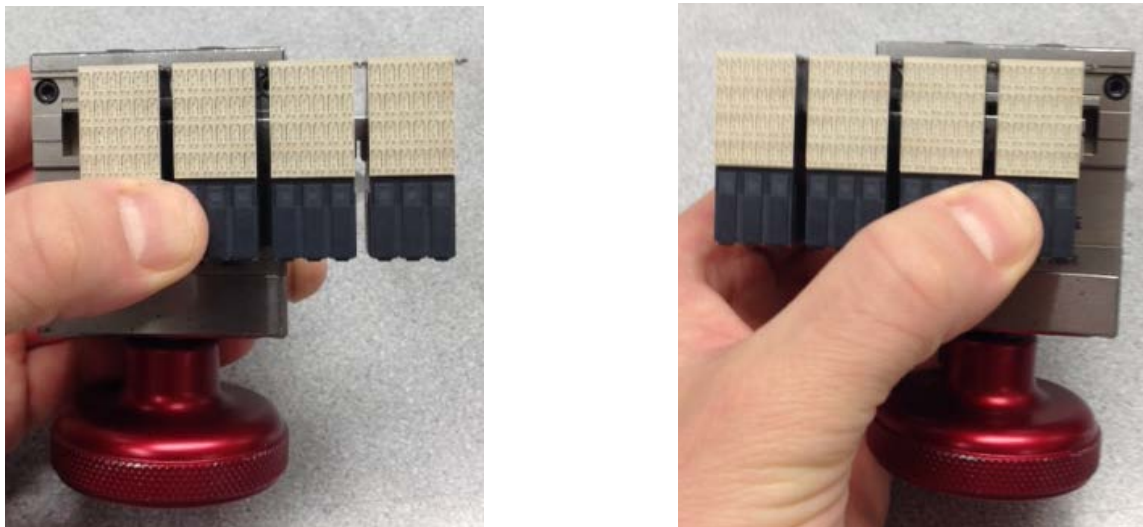

Figure 22. Top stiffener installation on Paladin RAF loose connectors greater than 2" (50.8mm) in overall length
Step 6. Turn the knob in the clockwise direction (if installing the top stiffener) or counterclockwise (if installing the back stiffener) to return the tool to its original "closed" position. Disengage the stiffener removal tool from the stiffener and reengage the tool ~1.0 – 2.0 inches further down the length of the connector (See Figure 22 through Figure 24). Repeat Steps 5 and 6, working back-and-forth across the length of the connector, carefully "walking" the metal stiffener onto the connector stiffener hats.